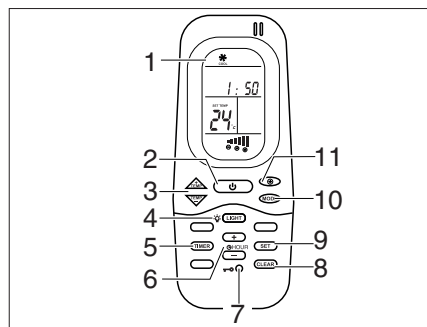
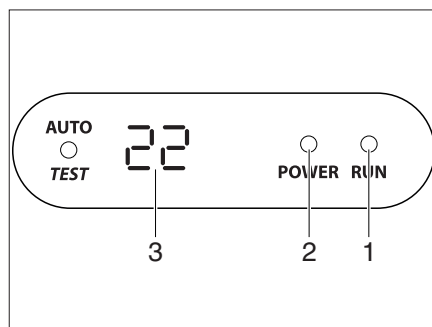

Fig. 119 Remote control
Fig. 120 Display on the diffuser
The air conditioning unit is located on the roof of the vehicle. The remote control (Fig. 119) for the air conditioning unit is located in the kitchen area.
- Connect the vehicle to the 230 V power supply. The air conditioning unit is ready to operate. The LED (Fig. 120,2) on the diffuser's display lights up red.
- To switch on, press the on/off switch (Fig. 119,2) on the remote control. The LED (Fig. 120,1) lights up green when the air conditioning unit is in cooling mode. The LED (Fig. 120,1) lights up red when the air conditioning unit is in heating mode.
- Set the desired operating mode using the MODE button (Fig. 119,10).
- If necessary, set the desired fan level by using the button (Fig. 119,11) and the room temperature by using the buttons (Fig. 119,3).
- To switch off, press the On/Off switch (Fig. 119,2) on the remote control again.
- To carry out programming, switch on the air conditioning unit with the On/off switch (Fig. 119,2) on the remote control.
- Press the TIMER button (Fig. 119,5). The ON indicator for the Start time is activated.
- Set the time with the TEMP (+/-) buttons (Fig. 119,3).
- Press the TIMER button (Fig. 119,5) again. The OFF indicator for the Start time is activated.
- Press the TIMER button (Fig. 119,5) again.
- Upon completing the setting, press the SET button (Fig. 119,9).
- Press the CLEAR button (Fig. 119,8) to delete the timer programming.